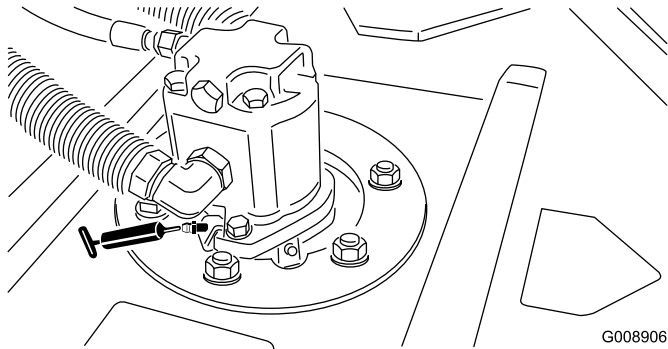

Figure 39
- Cutting unit spindle shaft bearings (2 per cutting unit) (Figure 39)